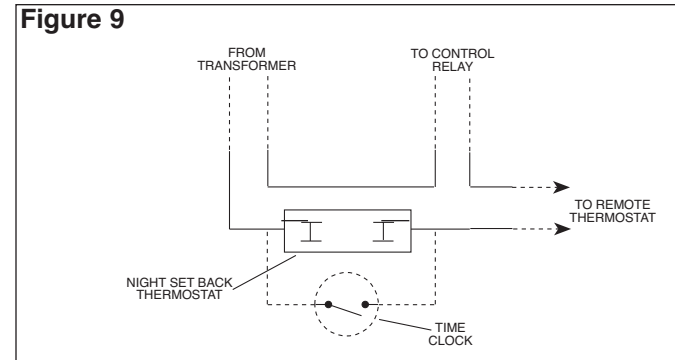

Figure 9
3. For night setback operation, refer to wiring diagram Figure 9.